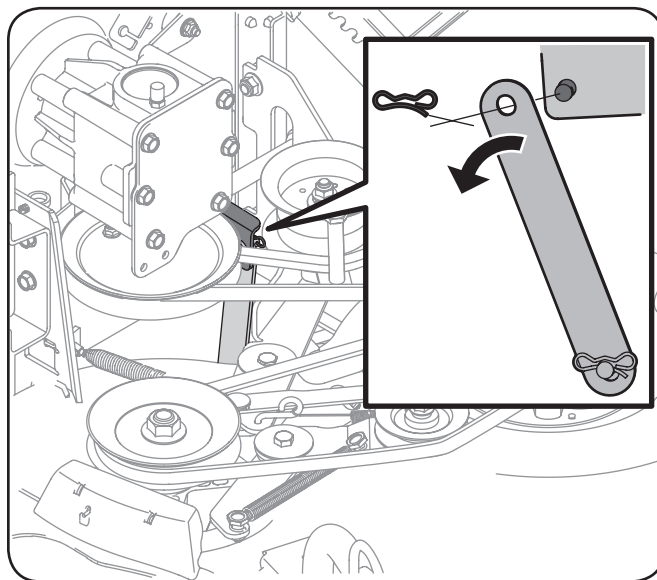

Figure 6-9
6. Remove the cotter pin from the height adjustment link, and slide the link off of the height adjustment pivot assembly. See Figure 6-9.